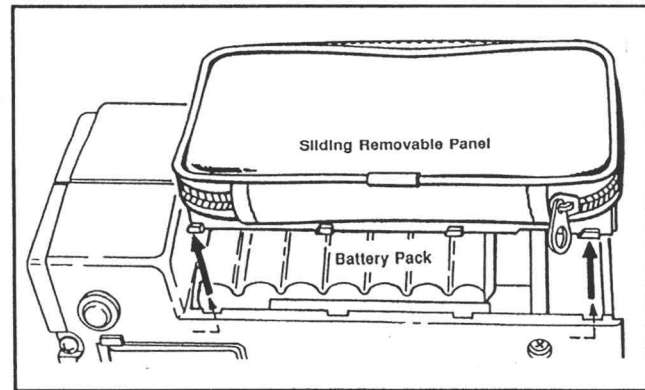
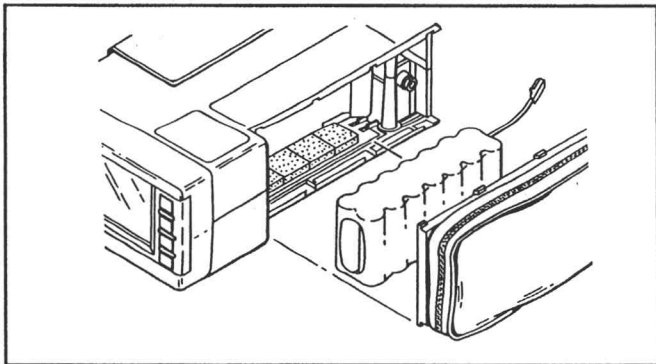

Fig. 3-2. Battery Pack Access
Fig. 3-5. Battery Pack Removal.
To connect the external battery charger, first access the battery pack. The battery pack is located behind the sliding removable panel attached to the Accessory Pouch mounted on the side of FiberScout (Fig. 3-2). It is not necessary to remove the battery pack for recharging, but it can be removed if desired (see Fig. 3-5).
- 2) Grasp Accessory Pouch. Press down firmly and pull removable panel gently toward back of FiberScout (approximately 3/16") until tabs on removable panel disengage from slots in case (see Fig. 3-2).
If it becomes necessary to remove the battery pack from the instrument case, disconnect the power cable from its connector and simply lift the battery pack out of its snap-in holder (see Fig. 3-5).